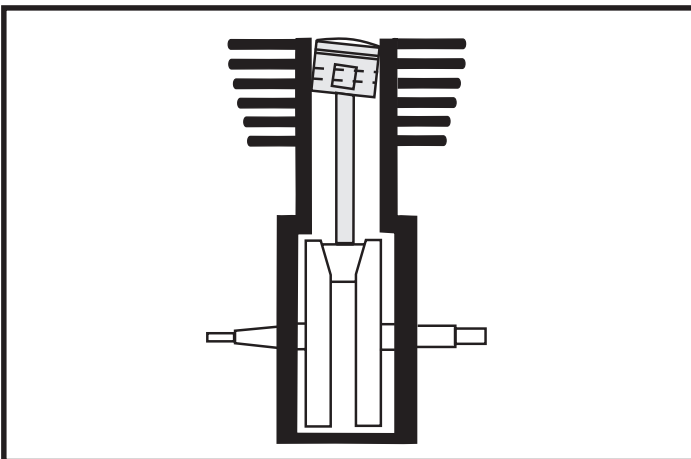

Figure 6
- D. Move piston towards driveside of engine and repeat Step C. If inaccuracies are present due to machining variations in cases, cylinders or pistons, top land of piston deck will appear closer to cylinder wall at one point around circumference. This means that piston is cocked in cylinder bore and can be corrected by bending rod in opposite direction. **Figure 6** shows an exaggerated side view of this condition.